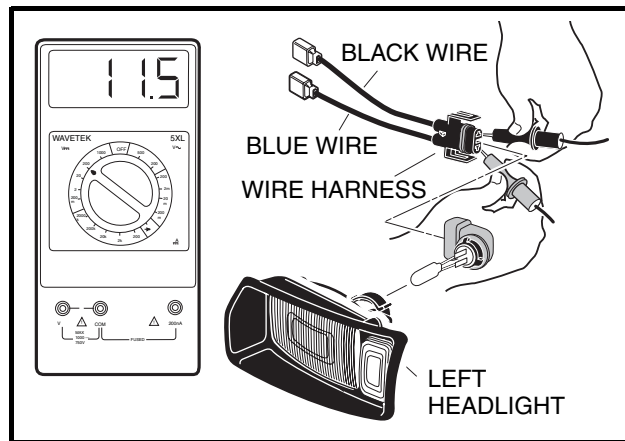

Figure 11-41 Check Voltage to Headlight Socket
3. Remove the wire harness from the headlight (**Figure 11-41, Page 11-38**).